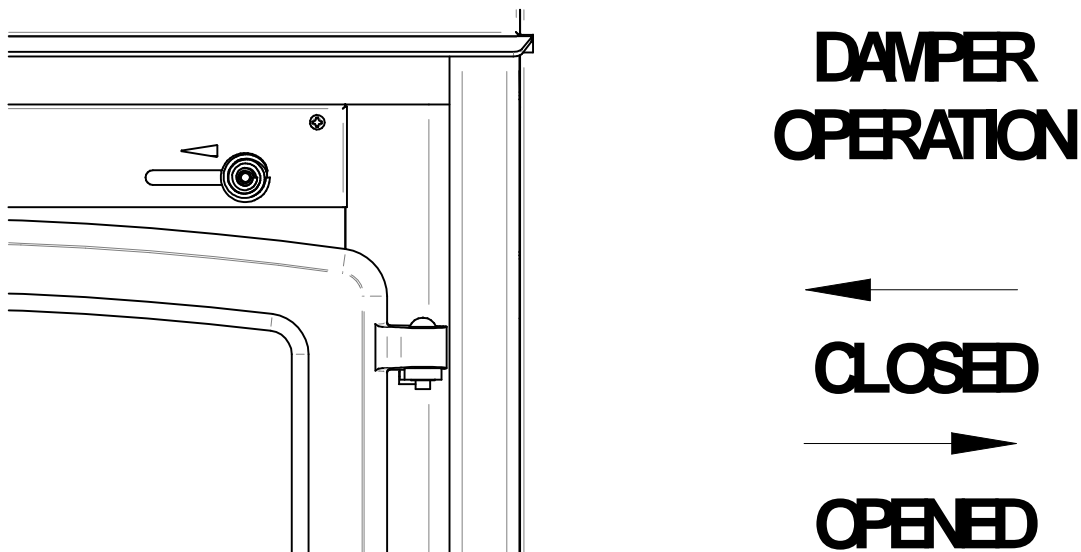

Figure 3.1
- Open the draft control fully to the right (located on the right side of the faceplate, Figure 3.1)